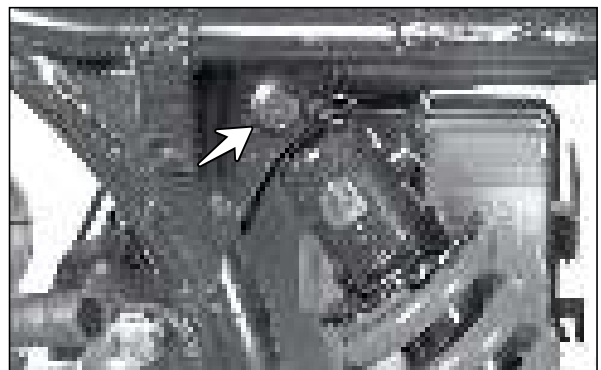

Fig. 6.142
- Remove the hexagonal flange bolt (M12x52) from the shockabsorber mounting top. (Fig. 6.142)